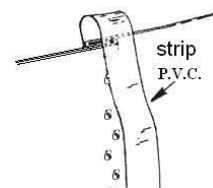

fig. 18
e) Cover the ends of the joint, the joint of the wall (inside the pool) and the screws with a PVC strip in order to protect the liner from friction which is usually the main cause for tears in the liner, fig. 18. This strip must be firmly stuck to this area, if necessary, use masking tape or similar to hold it to the wall.